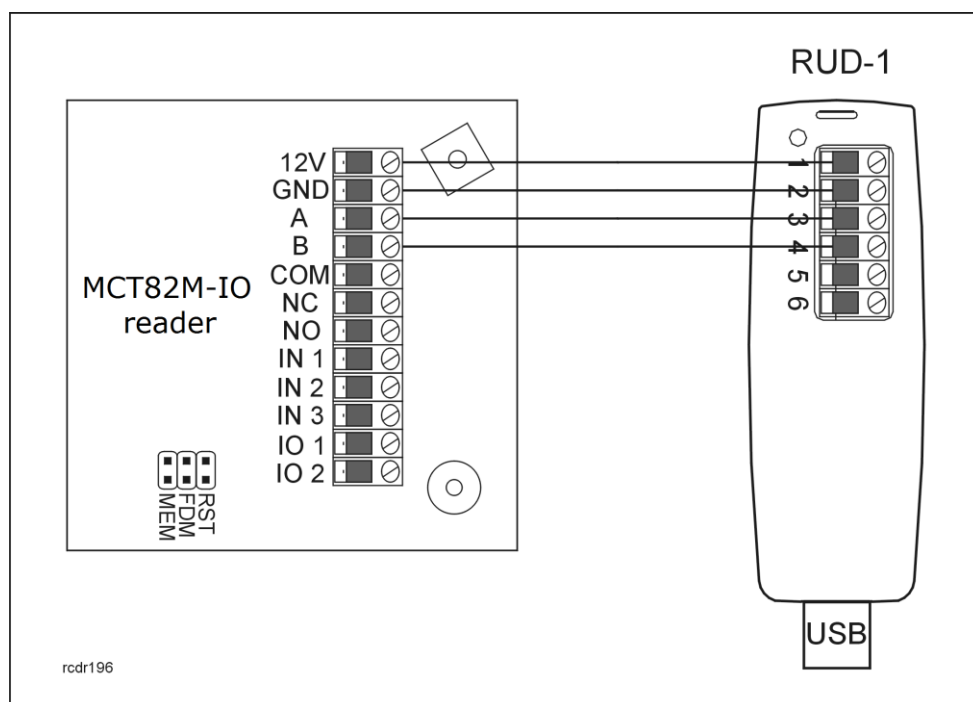

Fig. 1 Reader connection method to RUD-1 interface
1. Connect reader to RUD-1 interface according to Fig. 1.